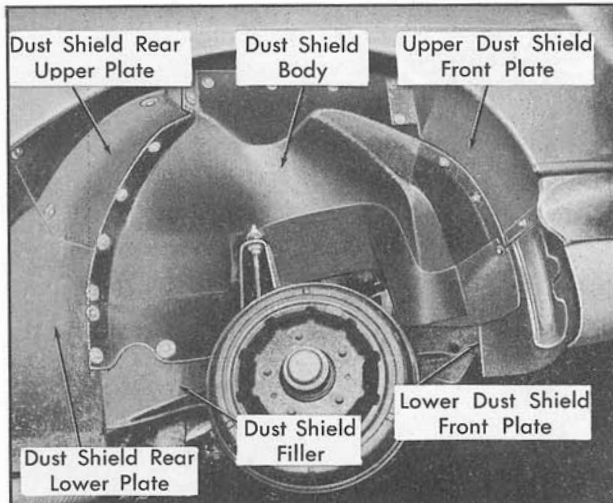

Fig. 16-6 Front Fender Dust Shields
7. Remove screws retaining lower rear dust shield plate to fender, and remove dust shield, Fig. 16-6.